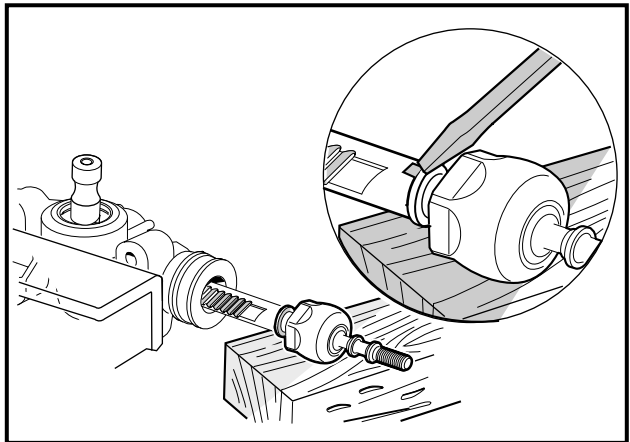

Figure 7-24 Install Ball Joint
14. Tap a flange into the notch on the rack **(Figure 7-24, Page 7-14)**.